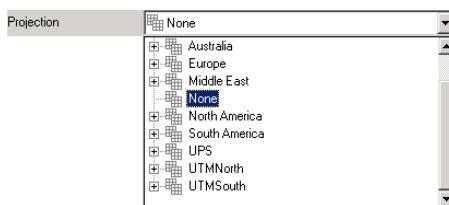

Figure 3-48. Projection List
- the Projection type (Figure 3-48).